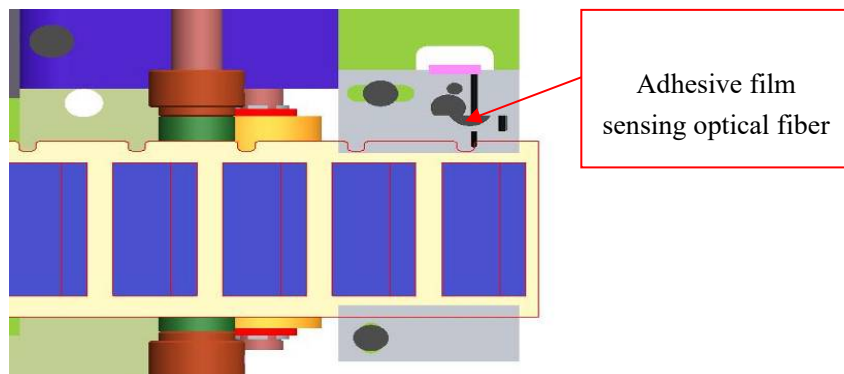

Figure 36
A. Strip: Automatically strip one splicing plate. Stripping stops after the optical fiber on the strip cutter plate detects a gap on the adhesive film edge. Figure 36